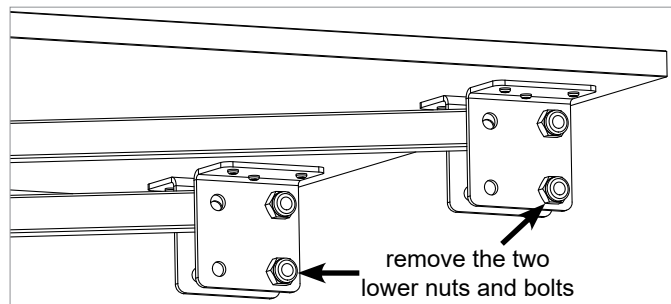

Fig. 1
1. The out-feed table comes pre-assembled and ready to install. Begin the installation by removing the two lower M10 nylon hex nuts and the corresponding M10 x 45 hex head bolts from the angle brackets on the bottom of the table (see Fig. 1). These bolts will be used in the next step to secure the support legs to the angle brackets.